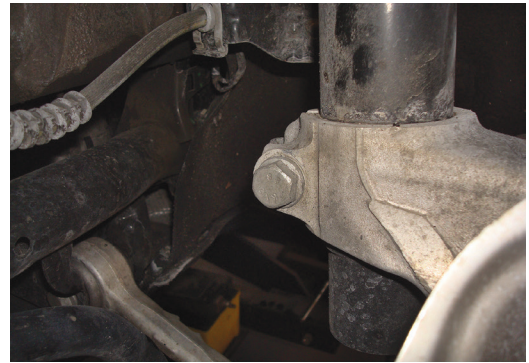

fig. D.8
4. Loosen both lower control arm pivot bushing bolts that are fastened to the subframe (Figs. D.8 & D.9).